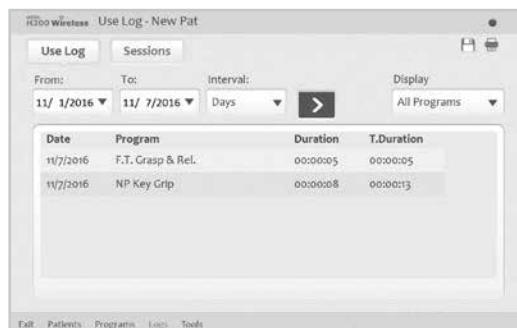

Figure 8-36: Use Log
2. Press the Use Log tab. The Use Log will open. See Figure 8-36.